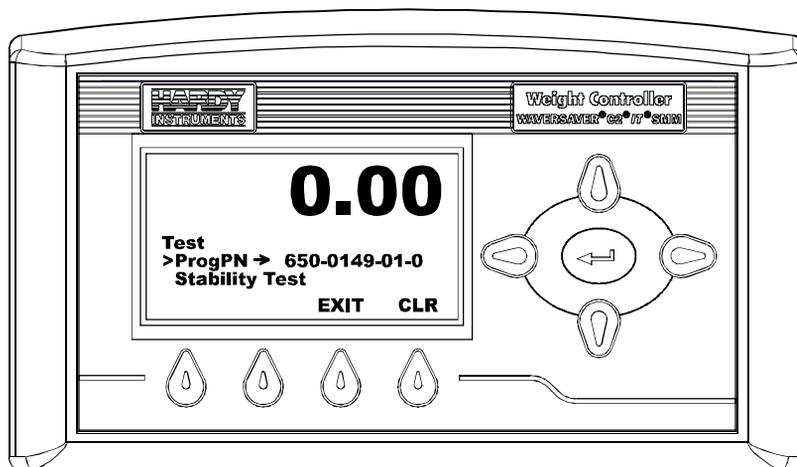

FIG. 392 TEST/VIEWING PROGRAM PART NUMBER
Step 9. To view the Program (Firmware) Part Number press the down arrow button until the cursor is in front of ProgPN. (See Fig. 392)